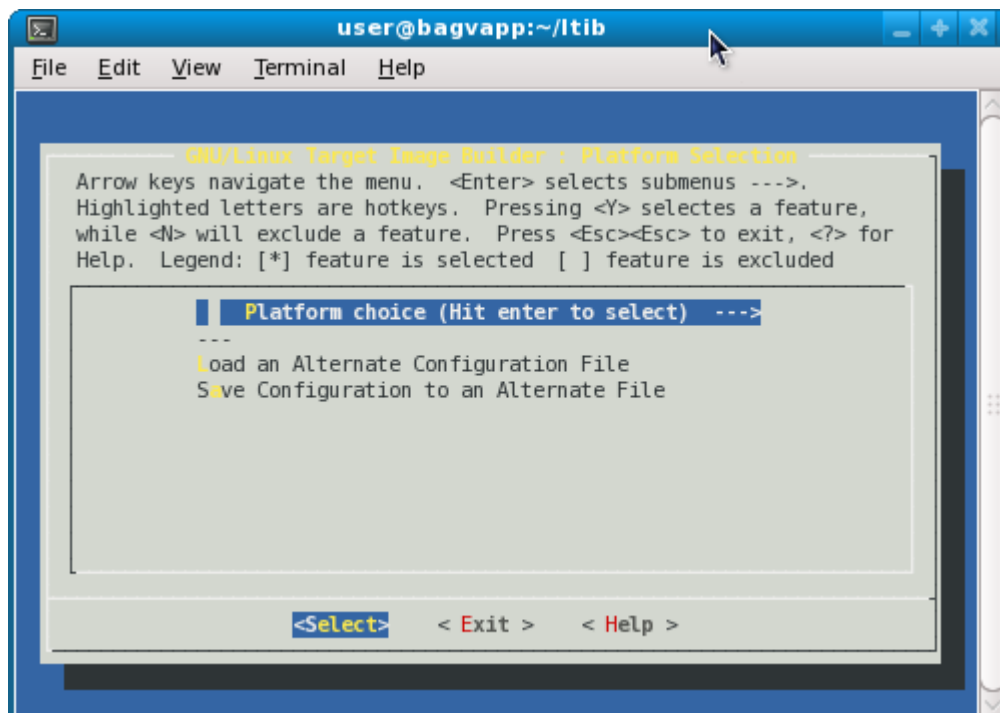

Figure 7 LTIB Platform Selections Menu
9. After a while a configuration menu will appear, see Figure 7. Hit Enter to select Platform.